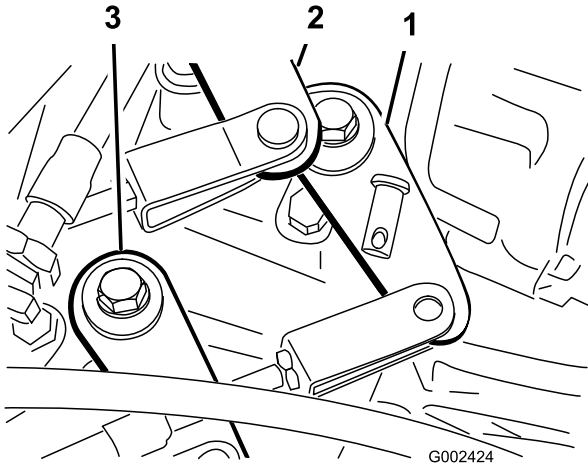

Figure 50
2. Remove the clevis pins securing the shift cables to the transaxle shift arms (Figure 50).